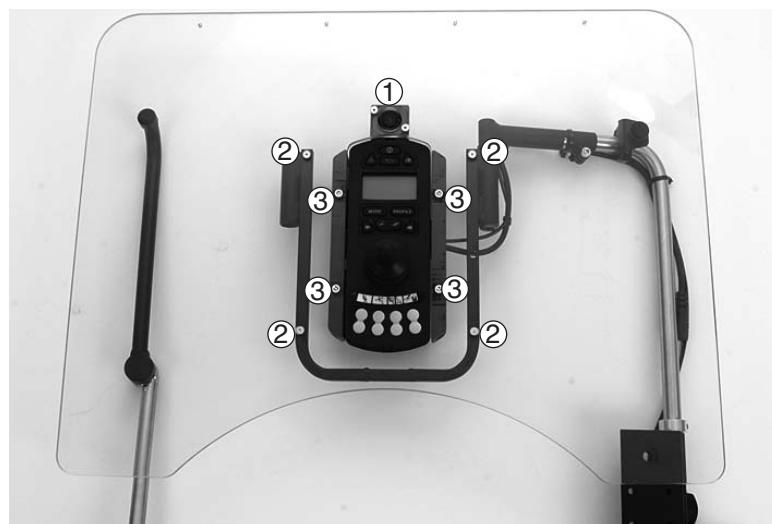

Fig. 1. General picture
5. Drill a 3.6 mm diameter hole 10 mm from the bottom of the button housing and 10 mm from the edge of the housing as shown in *Figure 1, item 1* and fix the cables using cable anchors. Fix the cables to the frame using cable anchors too (*Figure 2*).